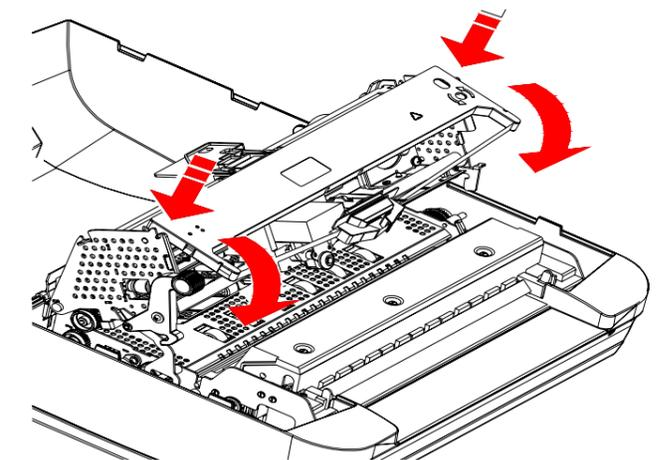

Figure 1.5-3
- Move print head to the centre and insert the fixation axles at the both ends of ribbon cartridge into the slots at both ends of print unit frame. Please refer to the Figure 1.5-3.
- Try to push ribbon cartridge by rotation as shown in figure 1.5-3. If there are any resistance, please rotate active wheel slightly. Insert ribbon cartridge fixation block into both ends slot of print unit